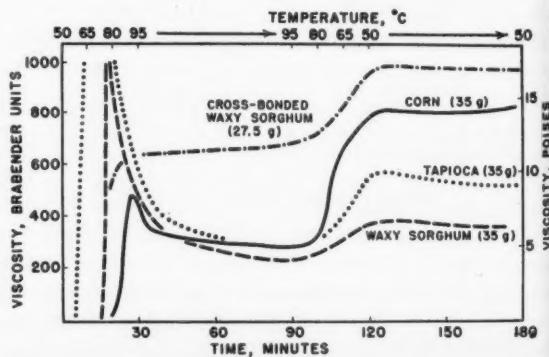

Fig. 8. Brabender viscosity curves of various thick-boiling starches. Concentration given in g. of starch (dry basis) per 500 ml. of slurry.
Viscosity is certainly primary in importance, and many ways of measuring this property have been used. For research purposes the Brabender recording viscometer is used, by which the starch is cooked to 95°C., held at this temperature for 1 hour, then cooled to 50°C. and held for an hour (5). Each species of starch gives its own peculiar type of curve (Fig. 8). The high swelling and solubilization of potato and tapioca starches are reflected in their high pasting peaks and substantial breakdown on cooking. In contrast, corn and regular sorghum starches show greater granule stability and little breakdown on cooking. The cross-bonded waxy sorghum starch is particularly interesting, since it shows no pasting peak. Indeed, the granules do not break down at all during